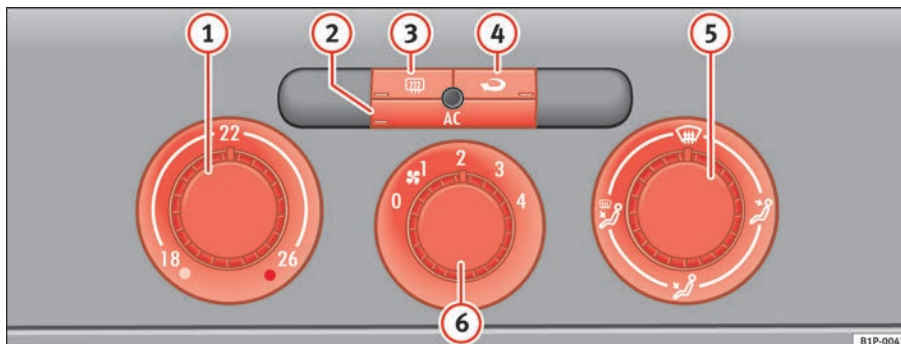

Fig. 109 On the dash panel: Climatic controls
- Turn the temperature selector ⇒ fig. 109 ① clockwise to select the required temperature.